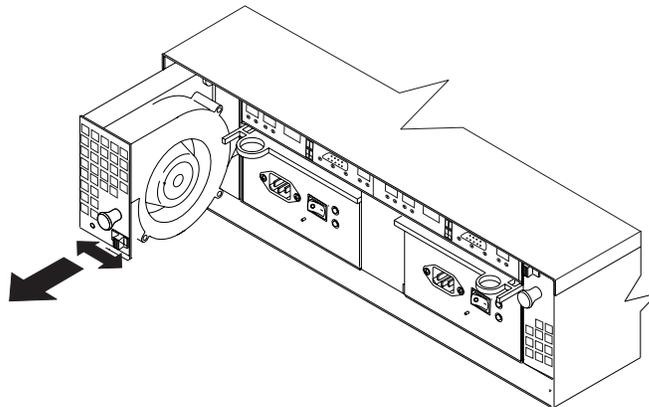

Figure 92. Removing a fan
- b. Use the handle (black knob) to pull the fan from the storage subsystem. See Figure 92.